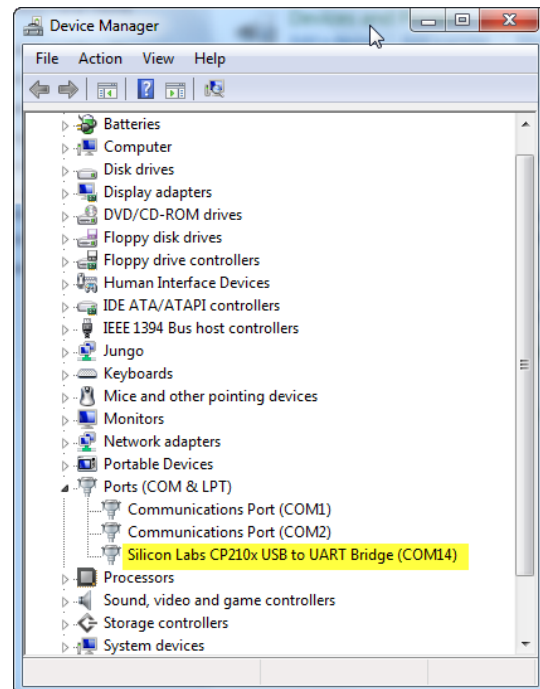

Figure 36 – Device Manager showing COM Port for A-910 Dongle
5. Locate **SILICON LABS CP210x USB to UART Bridge (COM x)** as shown in Figure 36.